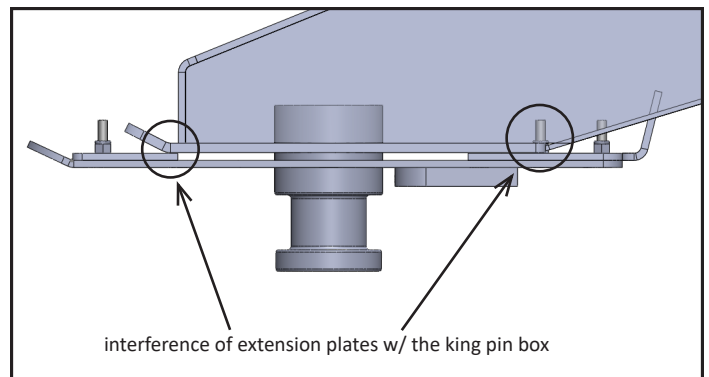

Figure 2
6. If the Universal Capture Plate extends beyond the King Pin box in the front, and there is enough room, install the braces {K2-K6} as shown in Figure 2. These fasteners do not count as part of the minimum number of bolts required.
4. Clamp the Universal Capture Plate, equipped with the front and rear extensions, to the bottom of your king pin box. You may find the fasteners interfere with the bottom of the king pin box, as well as the extension plates preventing the Universal Capture Plate from sitting flush with the king pin box (see Figure 2). It will be necessary to trim the extension plates, as the Universal Capture Plate *must* fit **flush** against the king pin plate.
8. If the Capture Plate extends beyond the King Pin Box, then install the Knee Braces as shown in Figure 2. These fasteners do not count as part of the minimum number of bolts required.